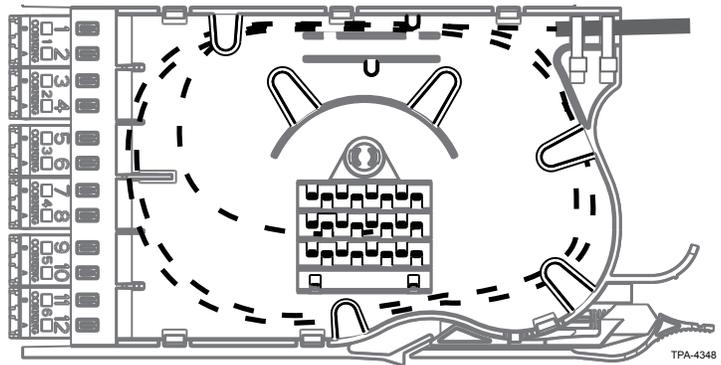

Figure 3
Step 3: Temporarily route two full loops of 250 μm fibers into cassette (or one loop of 900 μm fibers) as shown by the dashed line in Figure 3. Mark the splice point with a permanent marker and then cut fiber at mark in preparation for splicing. (Factory-installed pigtailed are not shown for clarity.)